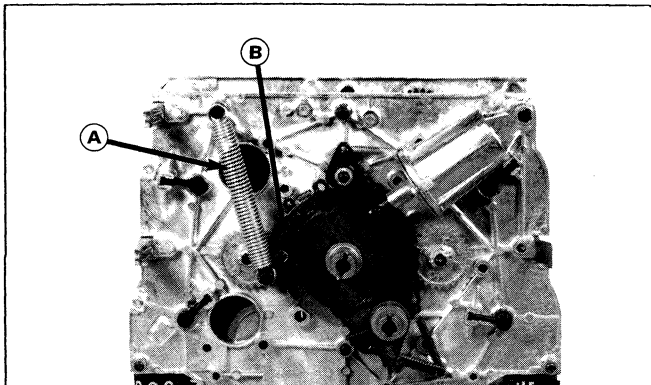

Figure 42.
2. Wheels Do Not Reset (Figure 42).